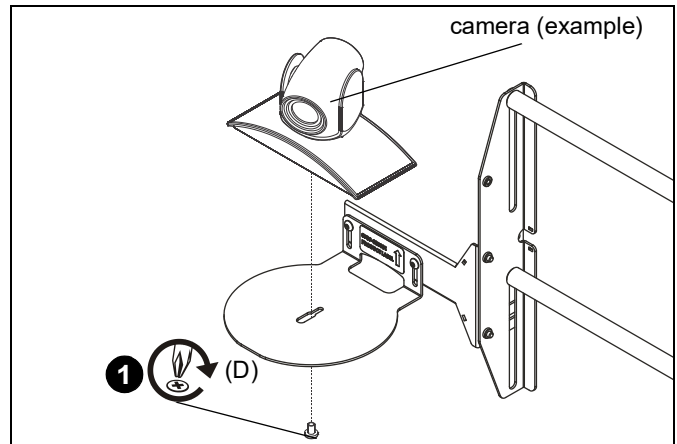

Figure 6
- Install 1/4-20 x 1/4" Phillips pan machine screw (D) through holes on shelf and into hole on bottom of camera. (See Figure 6)